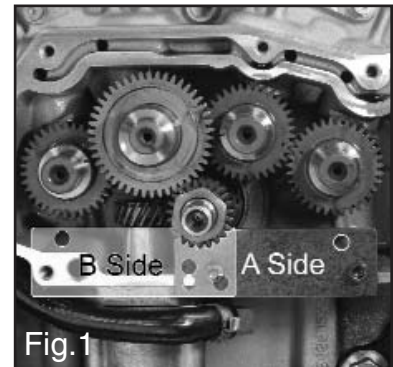

Fig. 1
- 2A. For Sportsters, locate teeth on tool with pinion gear by mounting tool to cam cover gasket surface on the case with two 1/4-20 x 1/2" screws as shown in figure 1. Side A should be facing you when installed on case.
- 2B. For Buells, follow 2A (above) except for 2003 to 2010. Side B should be facing you when installed on case as shown in figure 1.